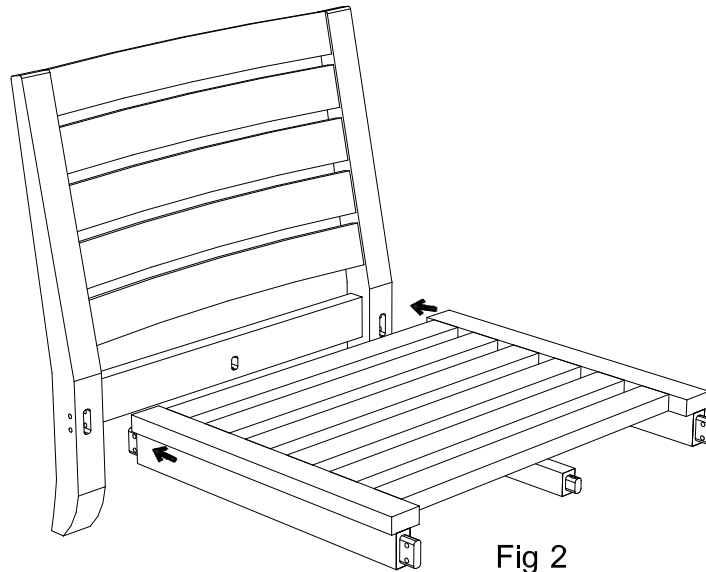

Fig 2
2. Put some glue into the seat mortise, insert the seat into leg & back support (Fig. 2)